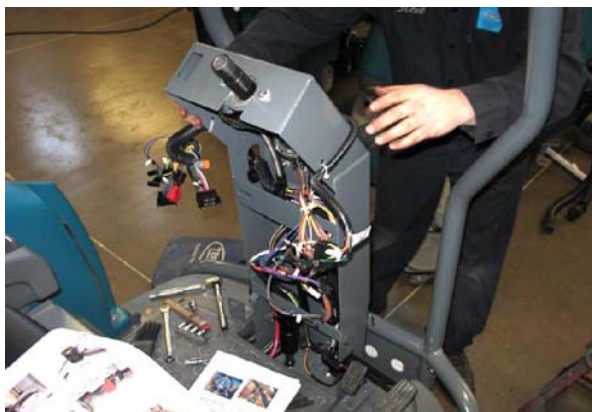

FIG. 38
12. Reinstall the steering channel and insert the steering shaft into the steering coupling (3). Loosely install the steering channel hardware. **DO NOT COMPLETELY TIGHTEN HARDWARE.** (Fig. 38)